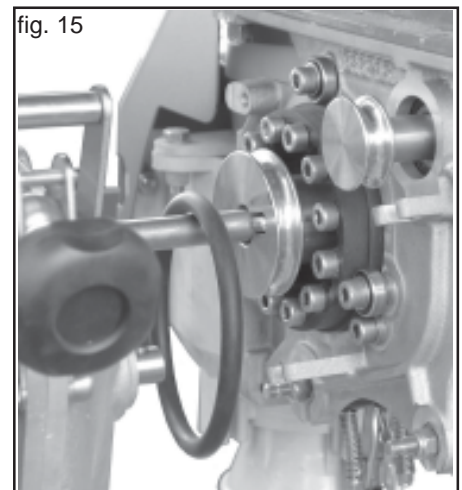

fig. 15
- Simply leave the belt on the drive shaft (Fig. 15).